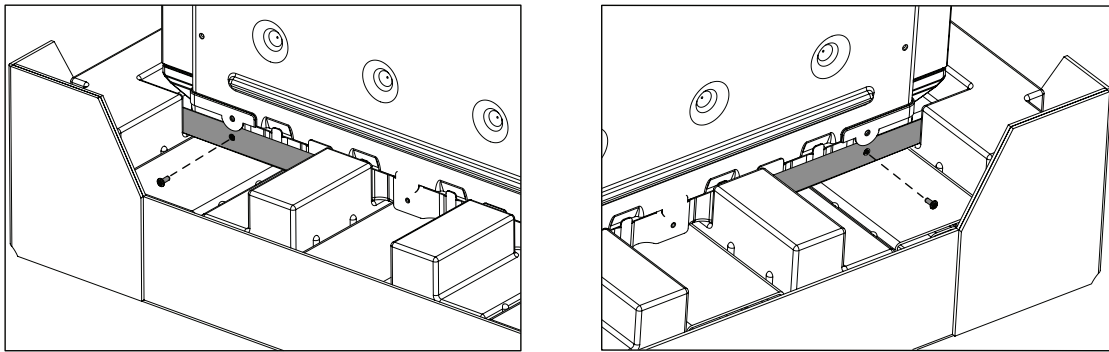

Figure 1: Left and Right Packaging Bracket Removal
- Unscrew unit from Left and Right Brackets as show in Figure 1: Left and Right Packaging Bracket Removal.